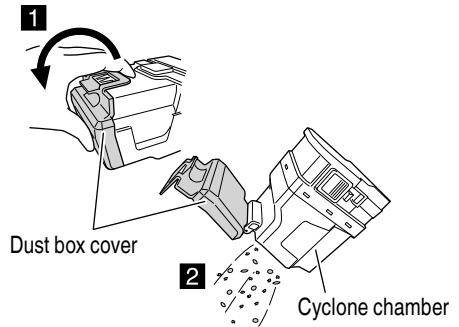

Fig. 14
- (2) Clean out the dust in the cyclone chamber (Fig. 14)